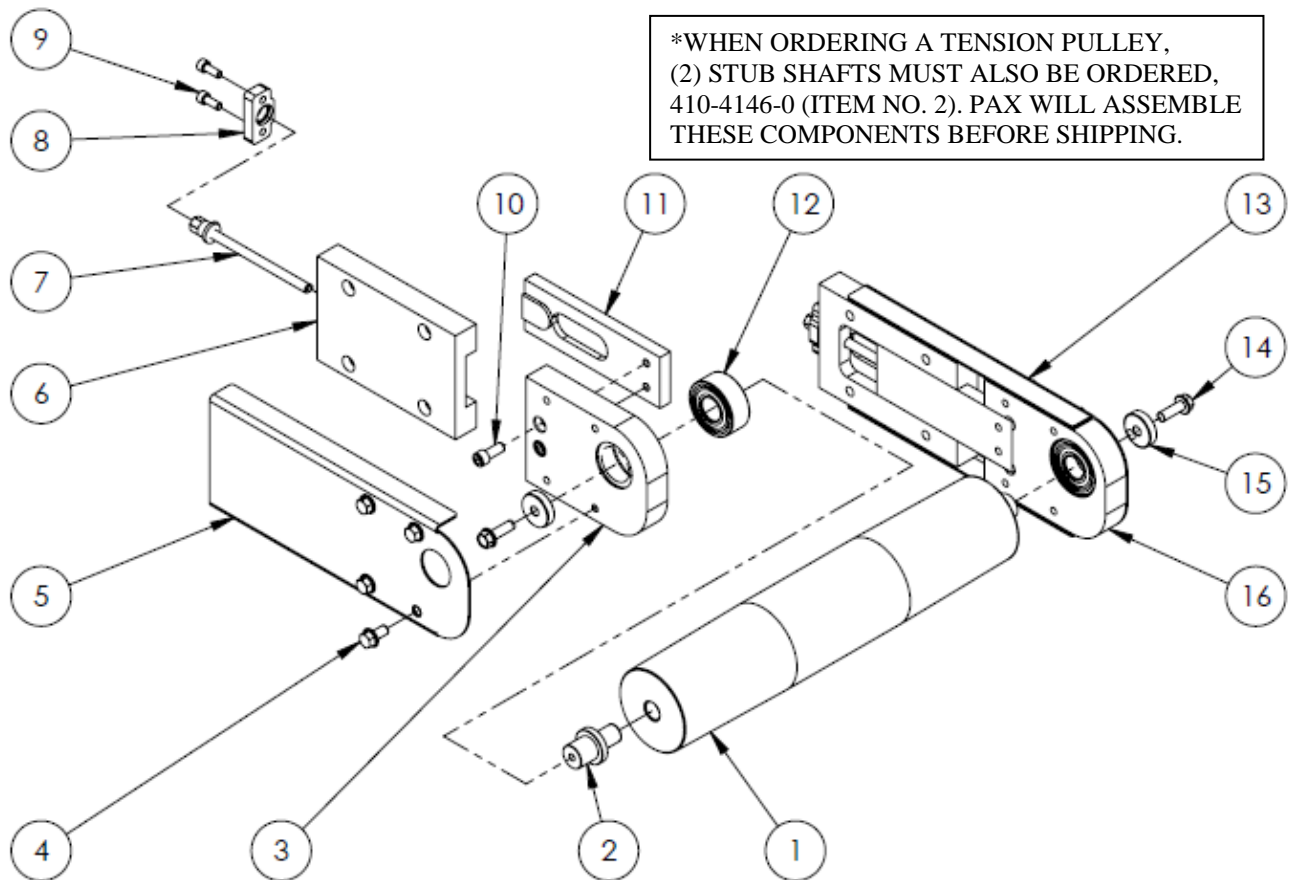

Figure 3. TENSION END COMPONENTS
- 3) Using a 3/8" wrench; relieve belt tension by turning the tension adjustment screws (Item 7, Figure 3) clockwise.
- 1) Loosen the tension screws (Item 7, Figure 3) evenly until there is little or no tension on the belt.
| 4 | (SEE FIGURE 3) | TENSION END COMPONENTS | 1 |